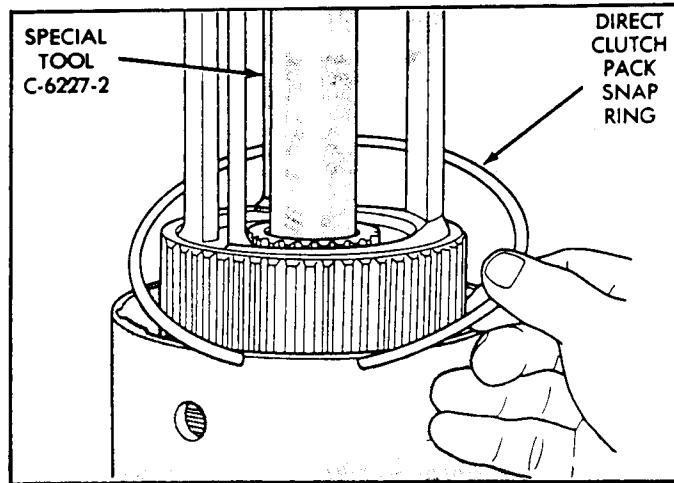

Figure 20
30. Install the direct clutchesnap ring, as shown in Figure 20, and **"Ensure"** that snap ring is fully seated in snap ring groove.